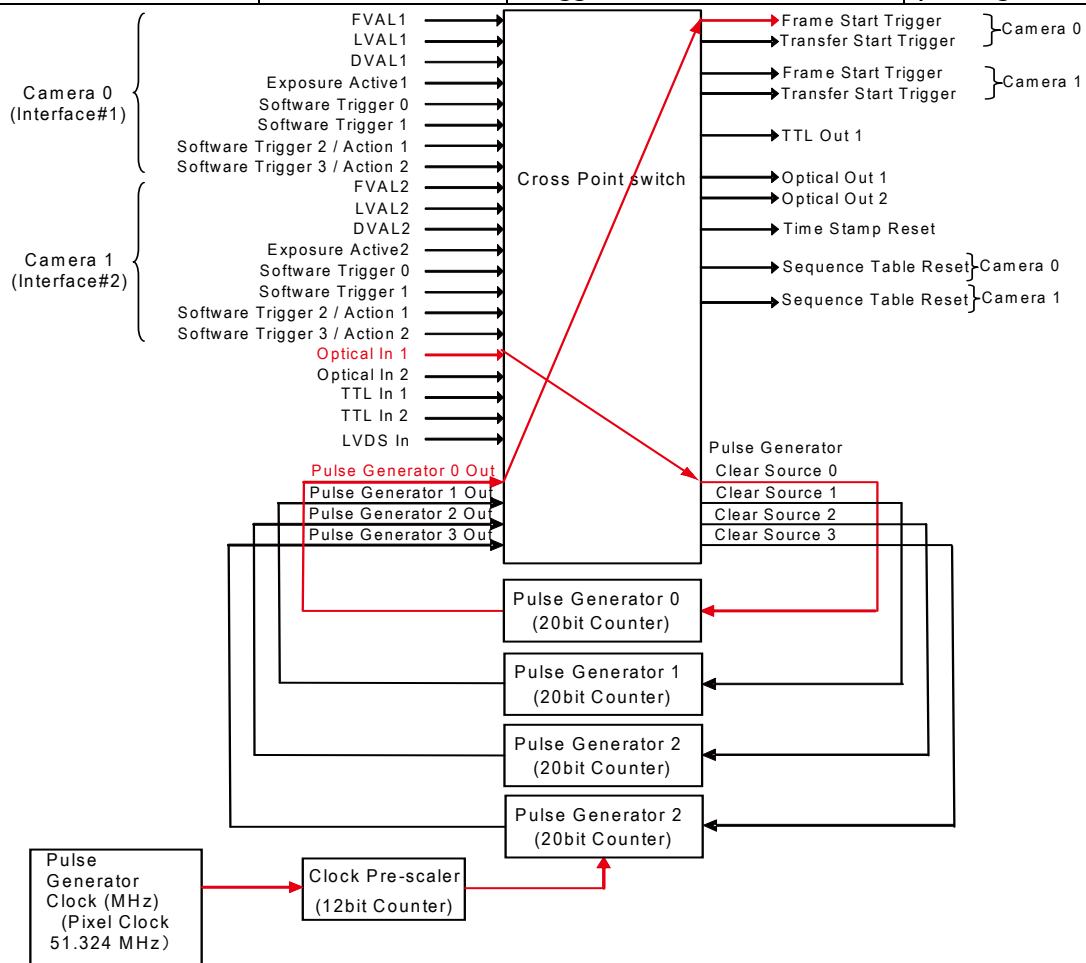

Fig.21 Pulse Generator Timing Example 1
- 1) The input port of GPIO, Camera 0 and Camera 1 have software trigger 0 to 3, respectively. However, the output port of GPIO has only one software trigger 0 to 3. Therefore, the function is described in the figure 21.